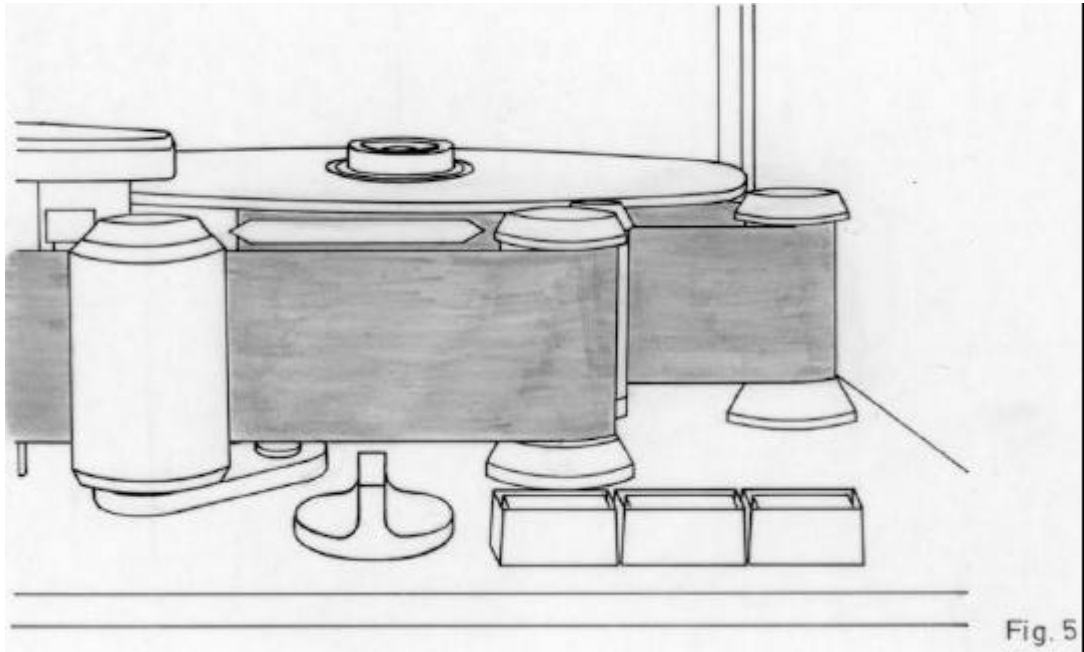

Fig. 5
- 1) If the tape tries to travel upwards, adjust roller no. 6. The top of this roller shall be adjusted TOWARDS the capstan shaft as illustrated in fig. 5.
- 2) If the tape tries to travel downwards, adjust roller no. 6. The top of this roller shall be adjusted AWAY from the capstan shaft as illustrated in fig. 5.